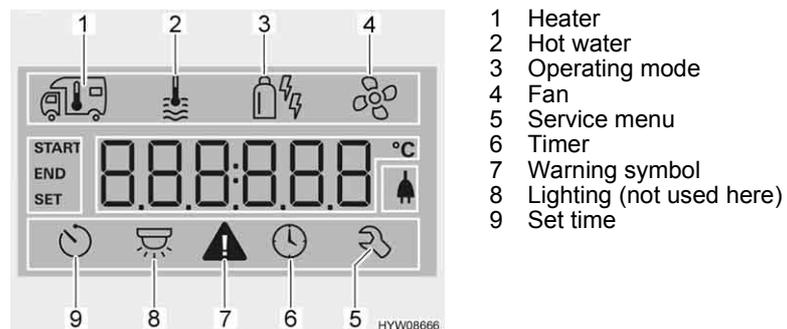

Fig. 212 Display
- Turn rotary push button (Fig. 191,6) until the hot water menu symbol (Fig. 212,2) flashes.